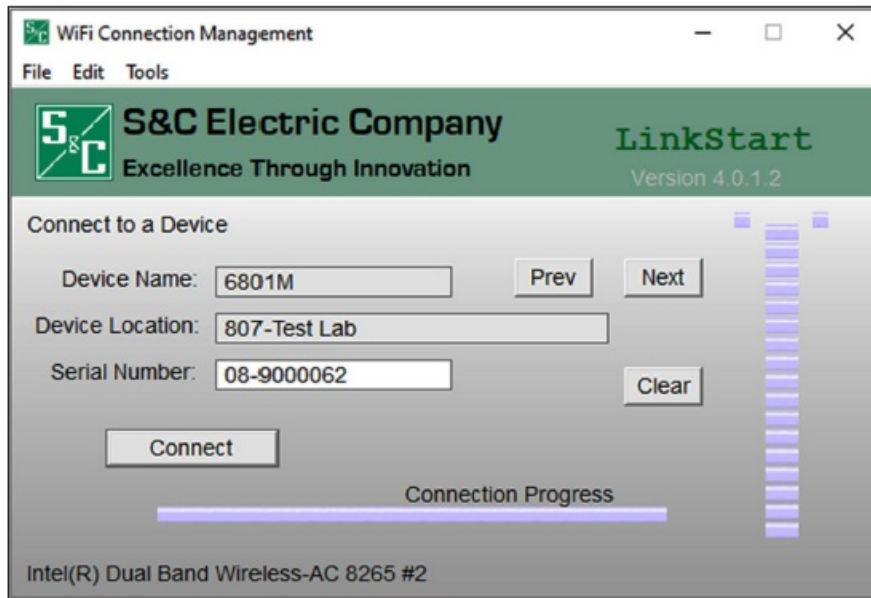

Figure 7. The Wi-Fi Connection Management dialog box.
- Click on the Connect button. See Figure 7.